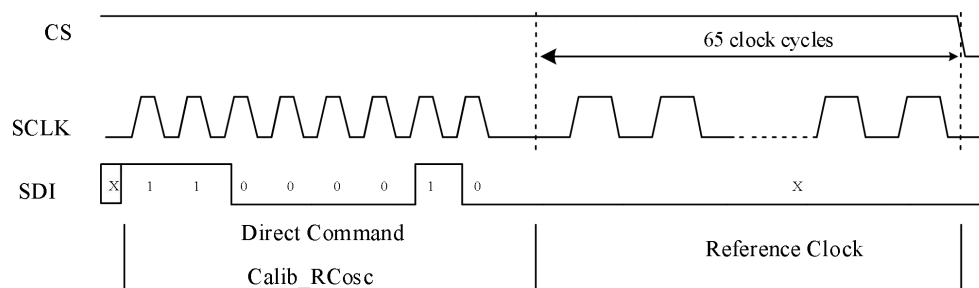

Figure 10-1 RC-Oscillator Calibration via SPI
To trim the RC-Oscillator, set the chip select (CS) to high before sending the direct command Calib_RCosc over SPI. Then 65 digital clock cycles of the reference clock (e.g. $125\text{kHz}/4=31.25\text{kHz}$) have to be sent on the clock bus (SCLK), as shown in Figure 10-1. After that the signal on the chip select (CS) has to be pulled down.